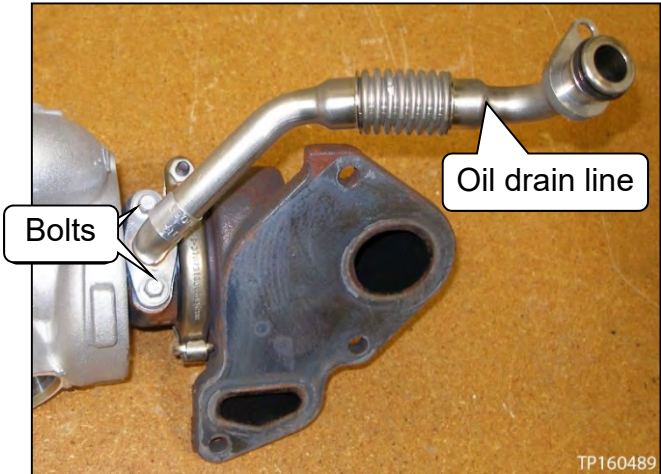

Figure 57
43. Remove the bolts, and then remove the oil drain line (see Figure 57).